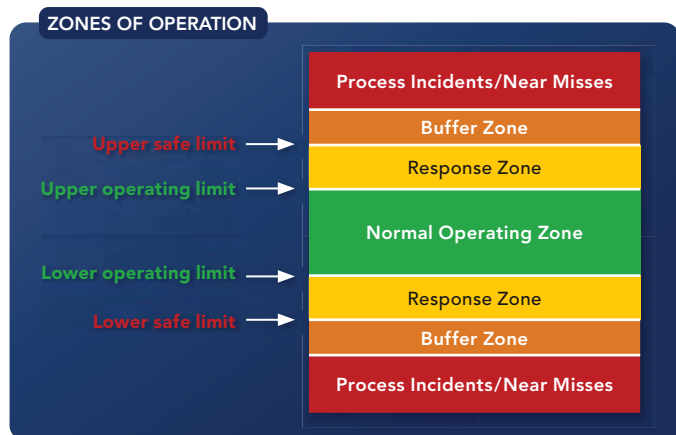
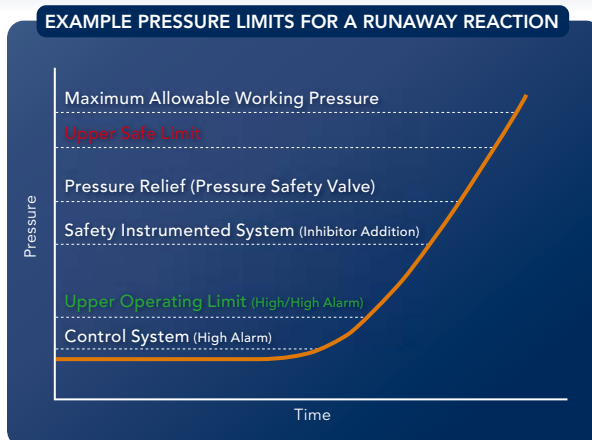

Figure 3. Most processes have a normal operating range with various limits addressing excursions.
Figure 4. This chart is a modified version of one in "Process Safety: Key Concepts and Practical Approaches" [5].
Figure 3 provides a typical way of thinking of limits. Most processes will have a normal operating zone, such as a temperature range from 100–120°C, based on safety, quality and other operability considerations. This range is used to define the desired upper and lower operating limits. Deviations above or below the operating limits will result in troubleshooting activities by operators and/or automatic response by the control system to return to normal conditions. Usually a response zone is defined before safe limits are exceeded, although the available response time may be very short. In some cases, a buffer zone may exist above the safe limits before worst-case consequences can occur. However, in many cases, the safe limit defines the point where undesirable safety consequences are possible without a buffer. Figure 4 shows these limits and the activation points for possible process safeguards for pressure in a reactor due to a runaway reaction, based on layers of protection as evaluated in a process hazard analysis (PHA).
*Guidance:* Ensure (1) both operating and safe limits are provided in the PSI, OPs or combined tables, and (2) the limits documentation addresses, as applicable, the different zones of operation shown in Figure 3. Also, avoid imprecise terminology when possible.
materials or PSI documents. Consider adding this information to the limit tables so an operator immediately can put them in context with the defined limits listed in the table. For example, Figure 4 shows a chart that details sev-